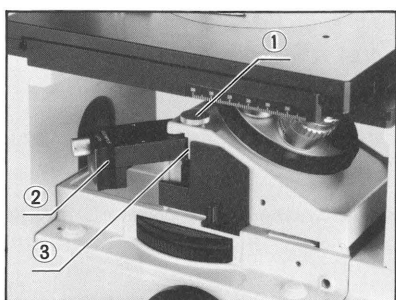

Fig. 2
## ② Mounting the DIC Attachment (IMT2-NA2) (Fig. 2)
- 1) Loosen the DIC attachment clamping knob ①, and remove the dust plug.
- 2) Insert the DIC attachment ② into the Nomarski slider insertion slot ③.